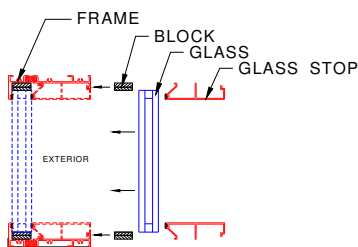

Figure 16:
1. Insert two setting blocks into the sill at the quarter points (Figure 16).
4. Insert edge blocks into each jamb at 2" above the sill and into the head at glazing center (Figure 16).